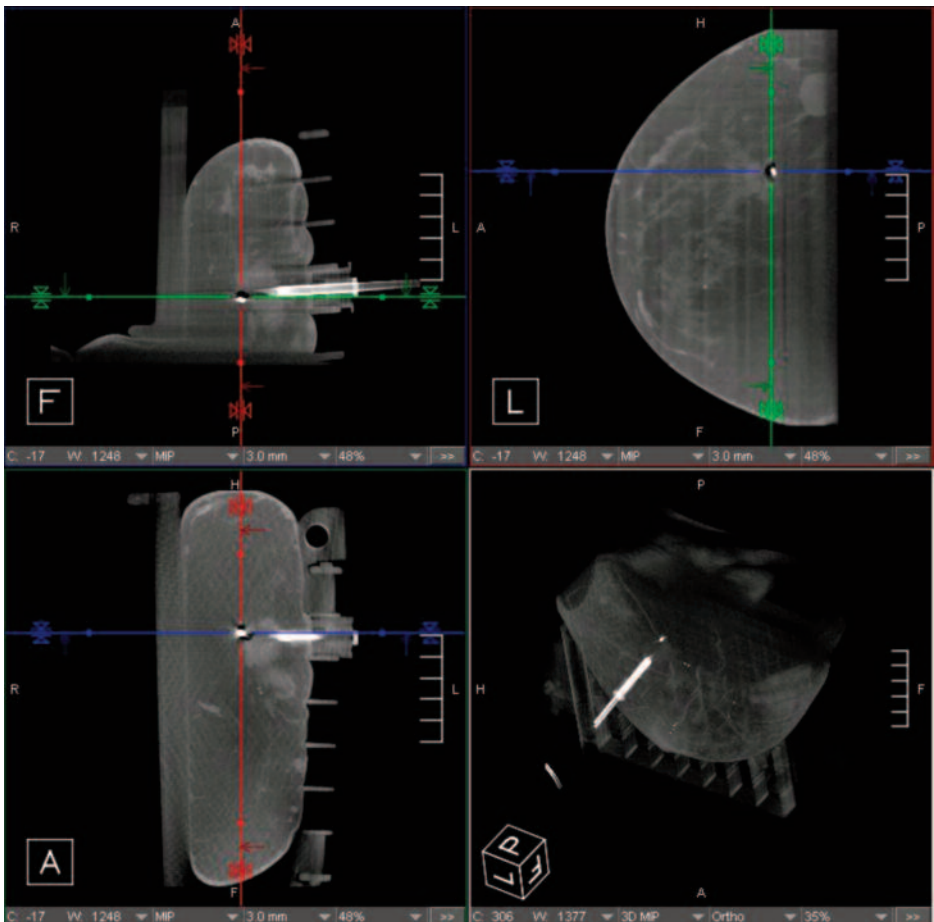

Figure B.3.1-7: Post-biopsy images to confirm clip placement
- For all lesions, a radiopaque marker will be placed at the biopsy site and the location verified with KBCT imaging for future intervention or treatment localization (Figure B.3.1-7)